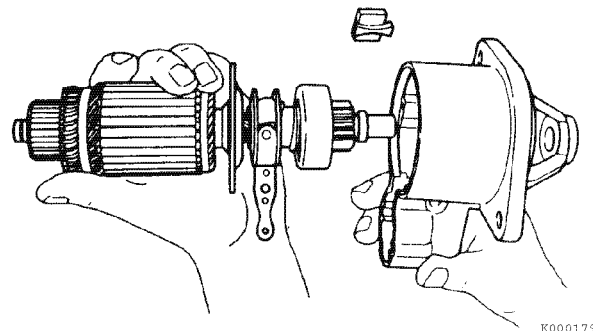

Figure 8-31
5. Install the armature and pinion assembly into the pinion housing (Figure 8-31).